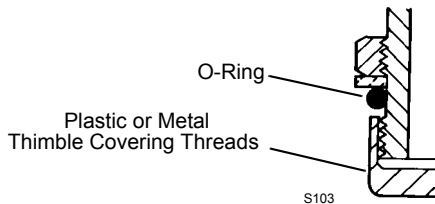

FIGURE 2-4
6. Be careful not to cut o-rings when assembling to fittings. Use thimble as shown in Figure 2-4 when assembling o-ring over threads.